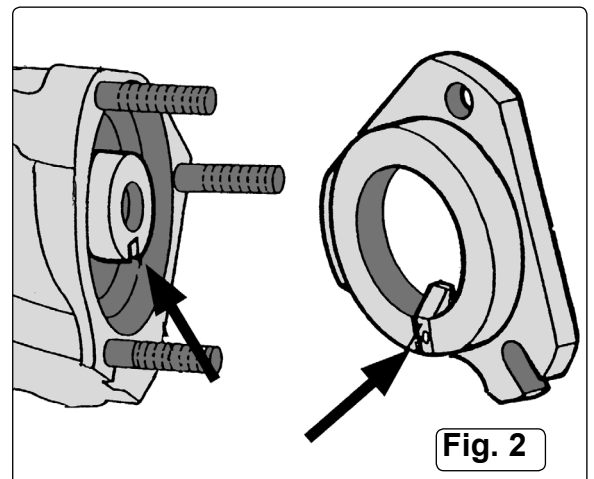

Fig. 2
4.1 VS1402/01 Camshaft Setting Plate Set (Fig. 2)
Remove covers at the rear of camshafts. Slide Plates over fits into the slot in the camshaft (fig.2). Secure in place with cover nuts.